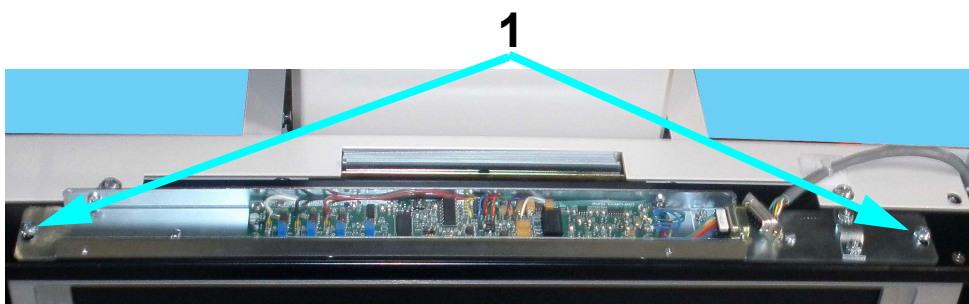

Figure 5-11. Ion Chamber Mounting Screws
- 12 Unscrew the ion chamber mounting screws (1 in Figure 5-11).